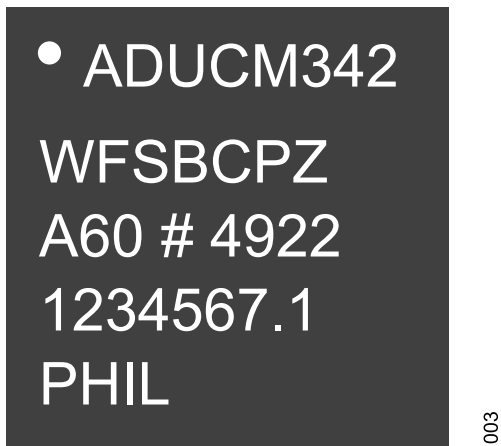

Figure 3. ADuCM342 Device Orientation
1. Ensuring correct orientation, insert an ADuCM342 device. Note that a dot in the corner shows the Pin 1 of the device. The dot on the device must be orientated with the dot on the socket, as shown in Figure 3.